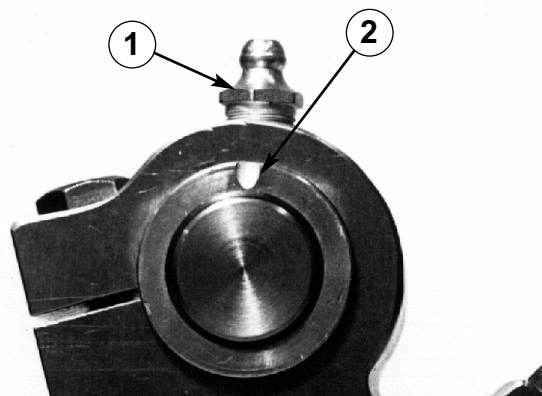

Figure 30 — Aligning notch on bearing with grease fitting. (1) Grease Fitting, (2) Notch.
Shafts: Check for wear in bearing areas. Excessive wear may indicate that bearings are not aligned with grease fittings and not receiving lubricant (Figure 30, page 42). If shafts do not slide in or out of bearings easily, check for nicks or burrs; file or hone as needed.
1. **If bearings need replacement**, loosen pinch bolts in side frames and remove bearings. Install new bearings with the thrust caps against the side frames, aligning notch with grease fitting (Figure 30). The notch indicates location of grease hole in bearing.